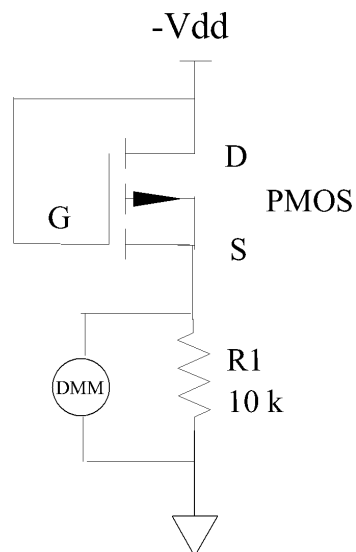

Figure 2
- d. Determine the threshold voltage,  $V_{th}$ , for the transistors in the CD4007 chip using Figure 2.
**Schematic Figure 2:**